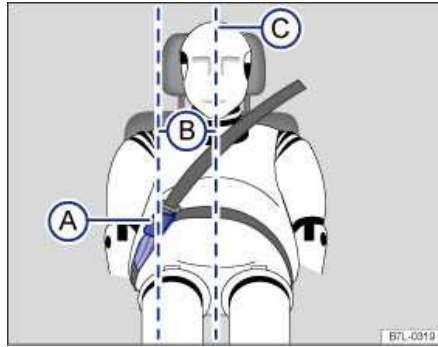

Fig. 58 Positioning of the safety belt extender.
Key to fig. 58:
- Never use a safety belt extender if the distance (B) between the front edge of the safety belt extender buckle (A) and the centerline of the person using the safety belt extender ⇒ fig. 58 \(C\) is less than 6 inches (15 cm).